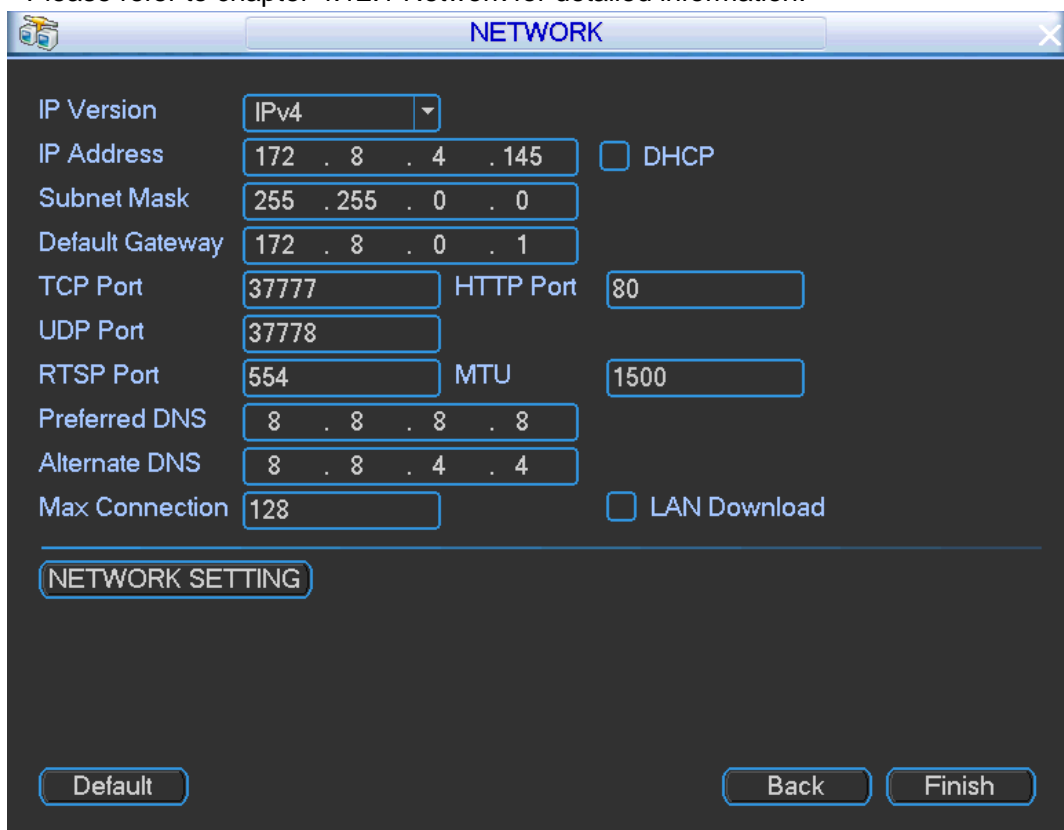

Figure 4-11
Step 10 Click Next button, enter Network interface. See Figure 4-11.